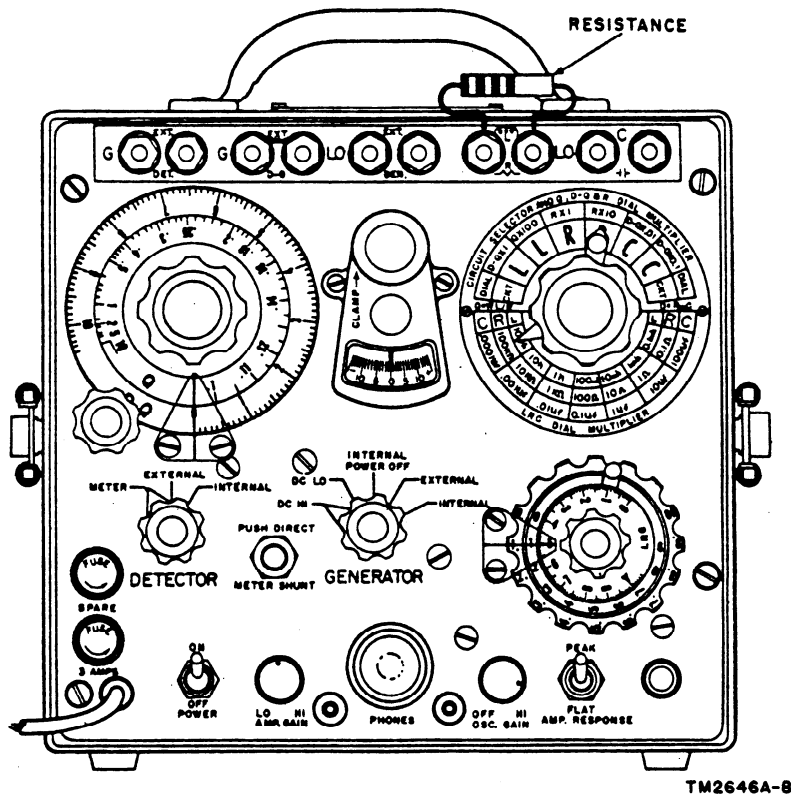

Figure 7. Bridge controls set for measurement of dc resistance (1 to 11 megohms).
f. If the galvanometer needle cannot be adjusted to zero, place the circuit selector switch in the R and R x 10 position (fig. 7) and repeat the operation described in e above.
Example 2: Settings of controls in figure 7 are for the final balance position of a dc resistance of 1.151 megohms. Observe and interpret the control readings as follows: